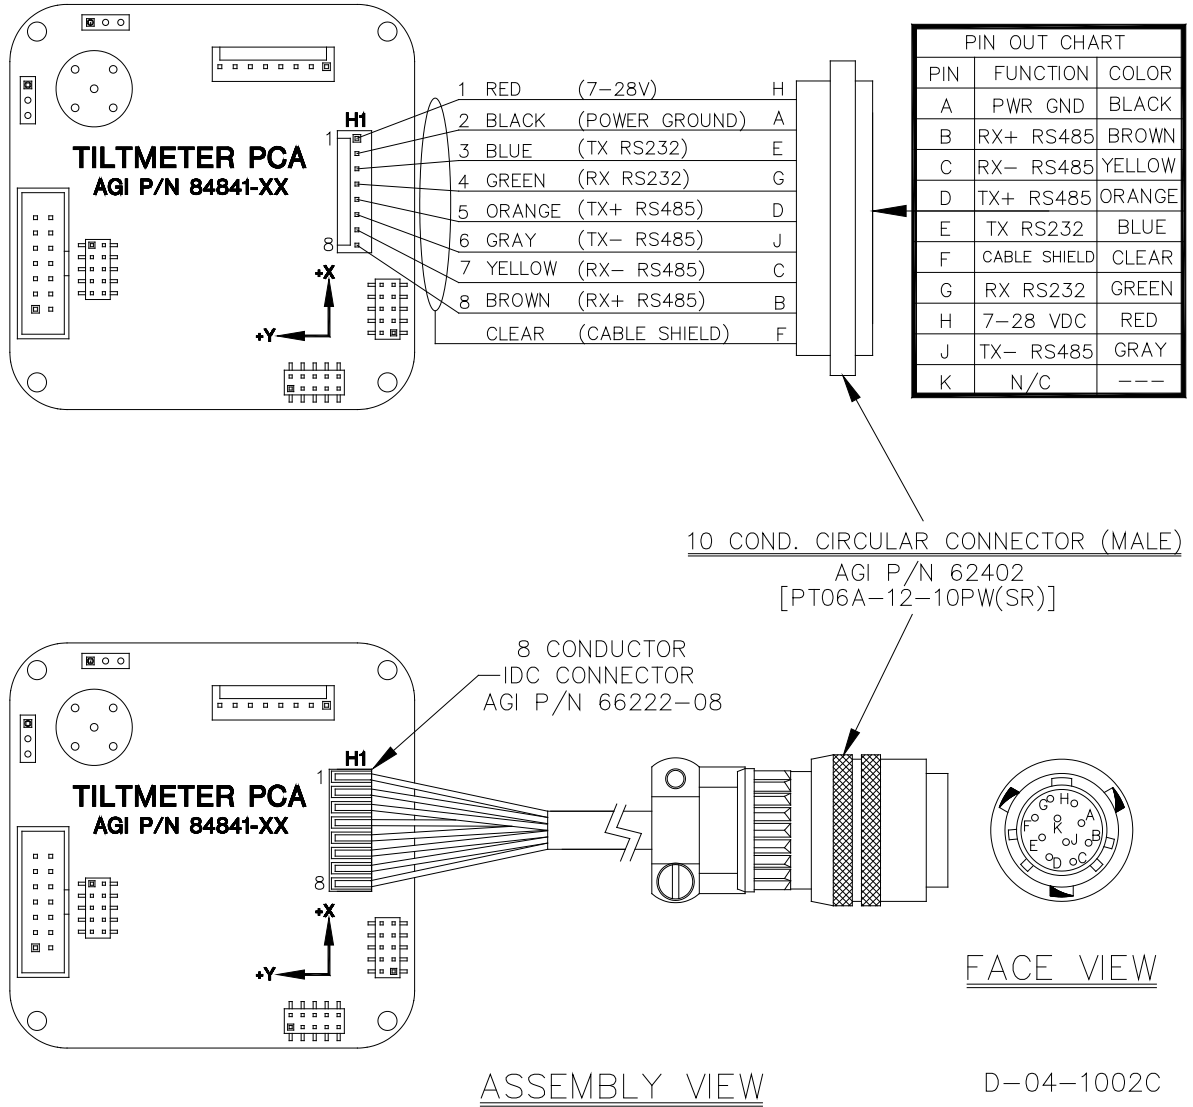
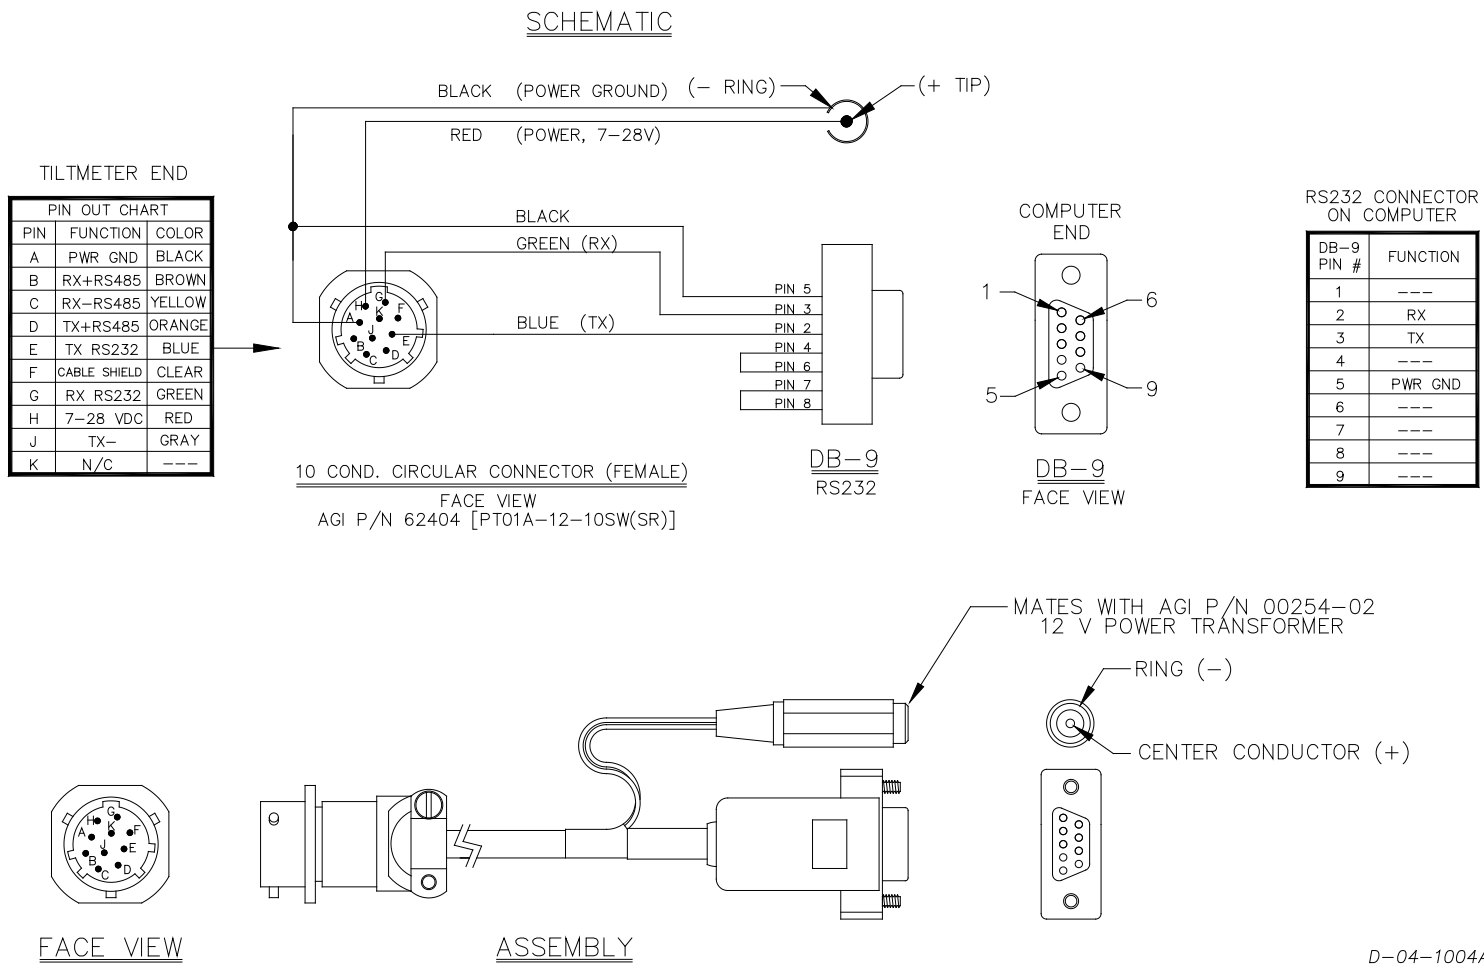
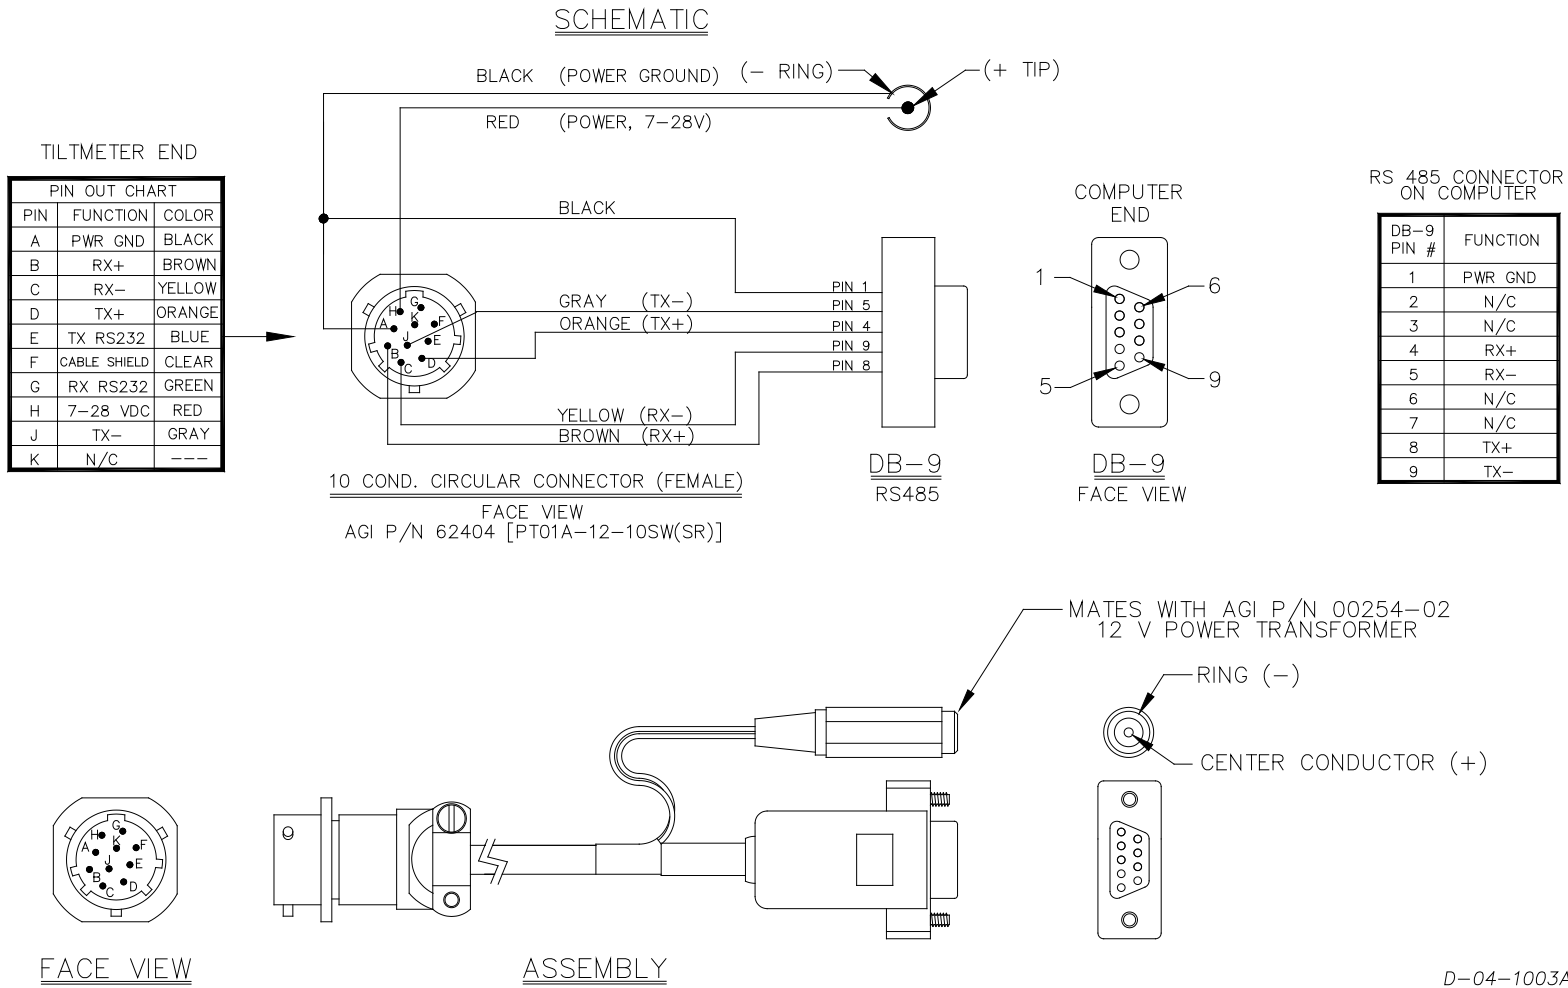

Figure 4. Model D711 Tiltmeter Cable Wiring
Figure 5. RS232 Test Cable (Part No. 89063) for Use with Model D711 Tiltmeter
Figure 6. RS485 (RS422) Test Cable (Part No. 89062) for Use with Model D711 Tiltmeter
RS232 output is designed for signal transmission over cable lengths less than approximately 15 meters. Figure 4 and Appendix A list the RS232 pin assignments in the tiltmeter cable. Figure 5 shows the wiring of the RS232 test cable.
RS485 and RS422 outputs are designed for signal transmission over long cables. These two output protocols are equivalent in the Model D711 and will drive cables longer than 1000 meters. Each tiltmeter with RS485 (RS422) output requires its own serial port. It is not currently possible to operate a series of tiltmeters in “multidrop” fashion on a single 4-wire cable. Figure 4 and Appendix A show the wiring and pin assignments for RS485 (RS422) output. Figure 6 shows the wiring of the RS485 test cable. Wiring of the DB9 connector at one end of the test cable corresponds to the National Instruments 8-port RS485 card for the PCI databus, part no. 777641-08 (2004).
When cable length exceeds 12 meters we recommend that termination resistors be used at the ends of the transmit and receive lines to dampen possible reflections and maintain good signal quality. Recommended resistor values are between 100 and 130 Ohms. Connect one resistor between the computer’s Rx+ and Rx- inputs (same as the tiltmeters Tx+ and Tx- wires) at the computer end of the cable. Similarly, connect one resistor between the tiltmeter’s Rx+ and Rx- inputs at the tiltmeter end of the cable. Refer to Figure 6 for pin numbering.
1. Apply power and attach the tiltmeter to a PC according to the wire color and pin assignment code in Appendix A. Or, use the test cable (Figure 5 or 6) and power transformer supplied with your tiltmeter.
1. Apply power and attach the tiltmeter to a PC according to the wire color and pin assignments in Appendix A. Or, use the test cable (Figure 5 or 6) and power transformer supplied with your tiltmeter.
Transient protection and noise reduction can also be enhanced by earthing the cable shield (drain wire) *at one end only*. Note that the tiltmeter cable shield is not connected to the tiltmeter case or to the circuitry inside the tiltmeter (Figure 4).